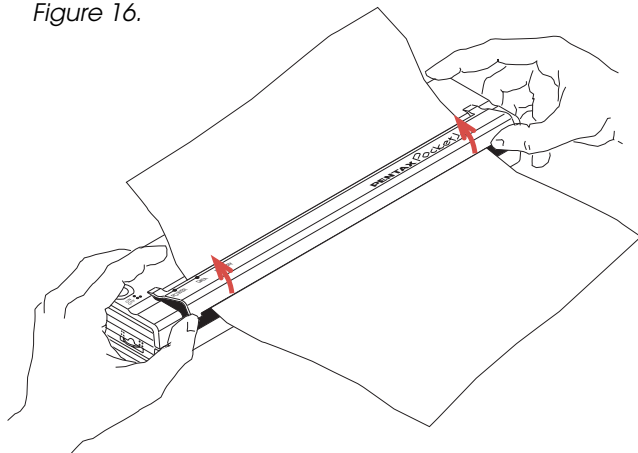

FIGURE 16. Opening the release cover.
- ◆ If the printer *does not* start to print immediately, open the release cover as far back as it will go. See *Figure 16 on page 35*. Pull the paper out and reinsert it. Close the cover.
- 1 Open the release cover as far back as it will go. See Figure 16.